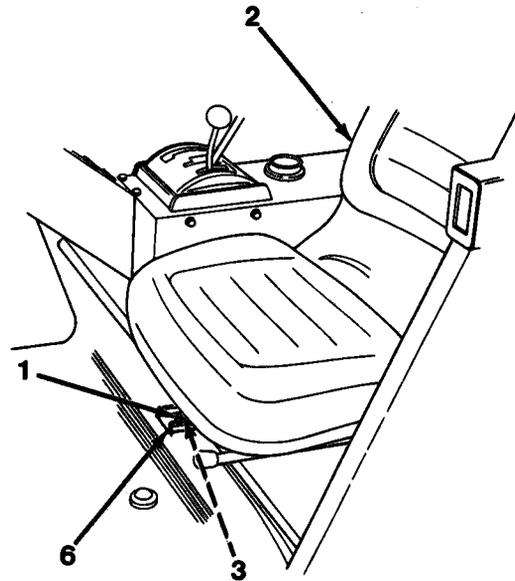

Figure 14-1
1. Remove four mounting lock nuts (1, Figure 14-1).
2. Remove seat (2) from inside cab and four capscrews (3) from slide rails (6).